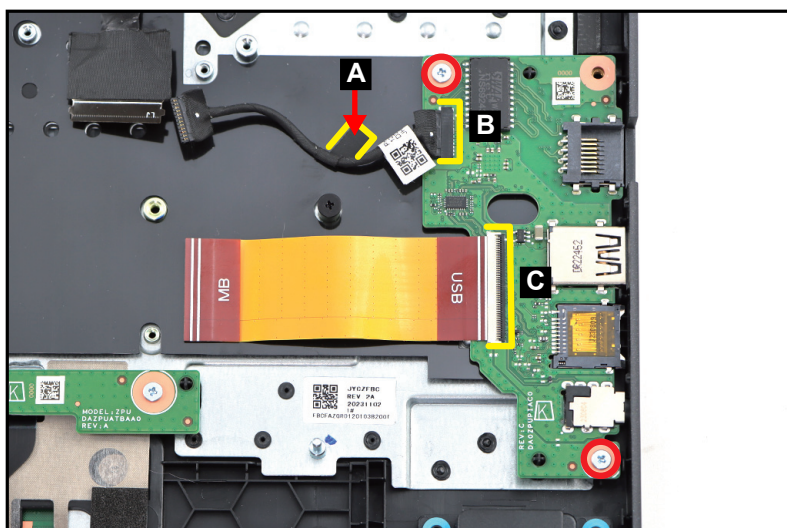

Figure 1-41. USB Board Removal
1. Detach the tape (A) (Figure 1-41).
2. Disconnect the USB power cable from the USB board connector (B) (Figure 1-41). Then remove the USB power cable.
3. Disconnect the USB board FPC from the USB board connector (C) (Figure 1-41). Then remove the FPC.
4. Remove two (2) screws securing the USB board (Figure 1-41).